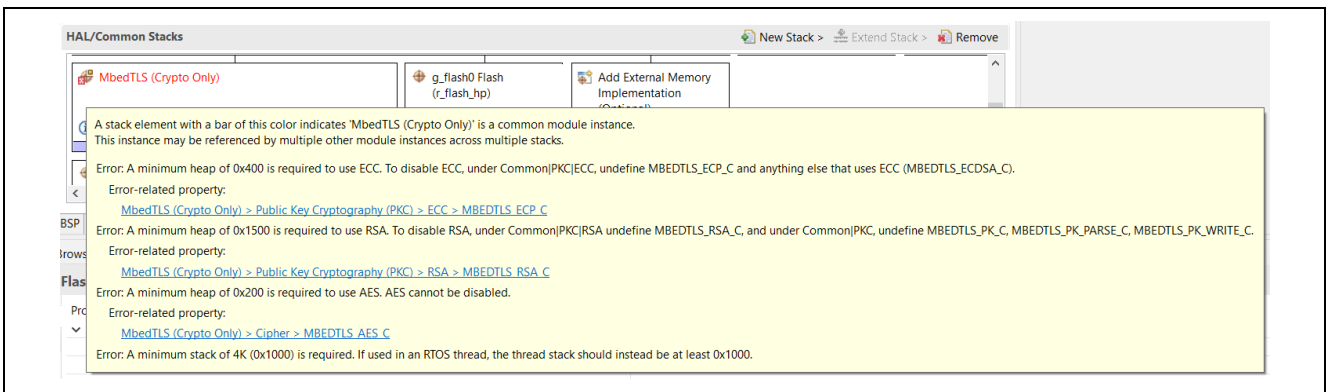

Figure 56. Dependencies of Mbed TLS (Crypto Only) Stack
3. Hover the cursor over **MbedTLS (Crypto Only)** stack. You will see warnings as shown in Figure 56.